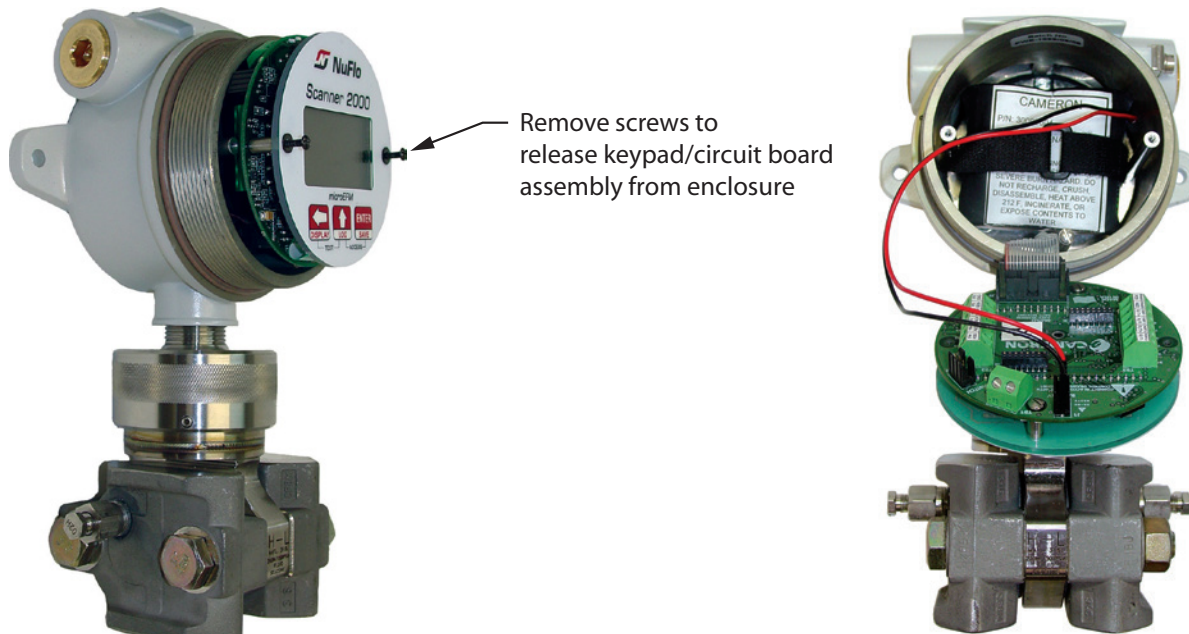

Figure 5.1—Removal of the battery pack from the enclosure
2. Using a small standard blade screwdriver, remove the two #4-40 × 7/8-in. screws located to the right and left side of the display (Figure 5.1, page 80).
4. Loosen the velcro strap, disconnect the battery from the J1 connector on the circuit assembly, and remove the spent battery pack from the enclosure (Figure 5.1).
2. Using a small standard blade screwdriver, remove the two #4-40  $\times$  7/8-in. screws located to the right and left side of the display (Figure 5.1, page 80).
2. Using a small standard blade screwdriver, remove the two #4-40  $\times$  7/8-in. screws located to the right and leftside of the display (Figure 5.1, page 80).